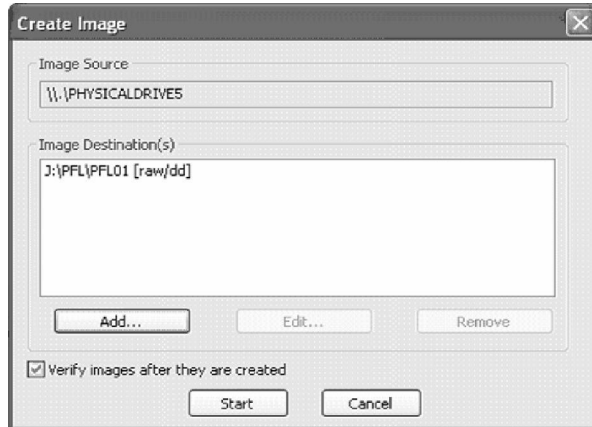

Figure 23 – Image Capture Start Screen
- Once finished, click the “Finished” button. The next prompt will Show both the Source and Destination drives. Click on the “Verify Images After They are Created” checkbox if you wish to verify the data after capture. See Figure 23 below.